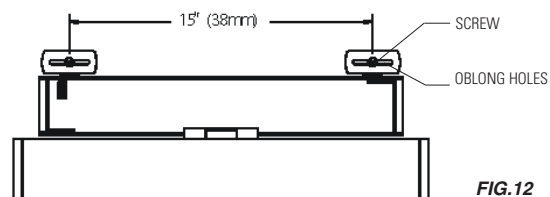

FIG.12
1. Mount 2 anchors 15 in. (381mm) apart. (Fig.12)
5. Install screws through oblong holes. (Fig.12)